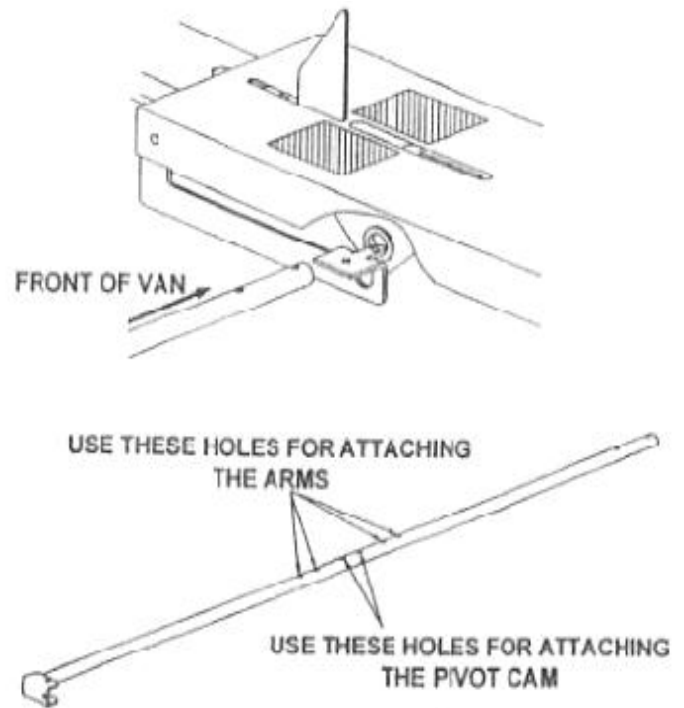

Figure 6
6. Slide Rear Tube / Handle Assembly through left arm, Grommet, Pivot Cam, Grommet and right hand arm. Make sure the rubber bumper in the rear clevis is facing toward the passenger side in the holes as shown, use four 5/16-18 x 1.50" Hex Head Screws and four 5/16-18 Lock Nuts to attach the arms to the Rear Tube. Rotate the Channel Assembly down to gain access to the two interior holes (See Figure 6). Torque the fasteners to 20 Nm.
7. Align the holes in the Pivot Cam and in the Rear Tube Assembly and insert two 5/16-18x 1/75" Hex Head Screws and two 5/16-18 Lock Nuts. Torque the fasteners to 20 Nm. (See Figures 6 and 6A)